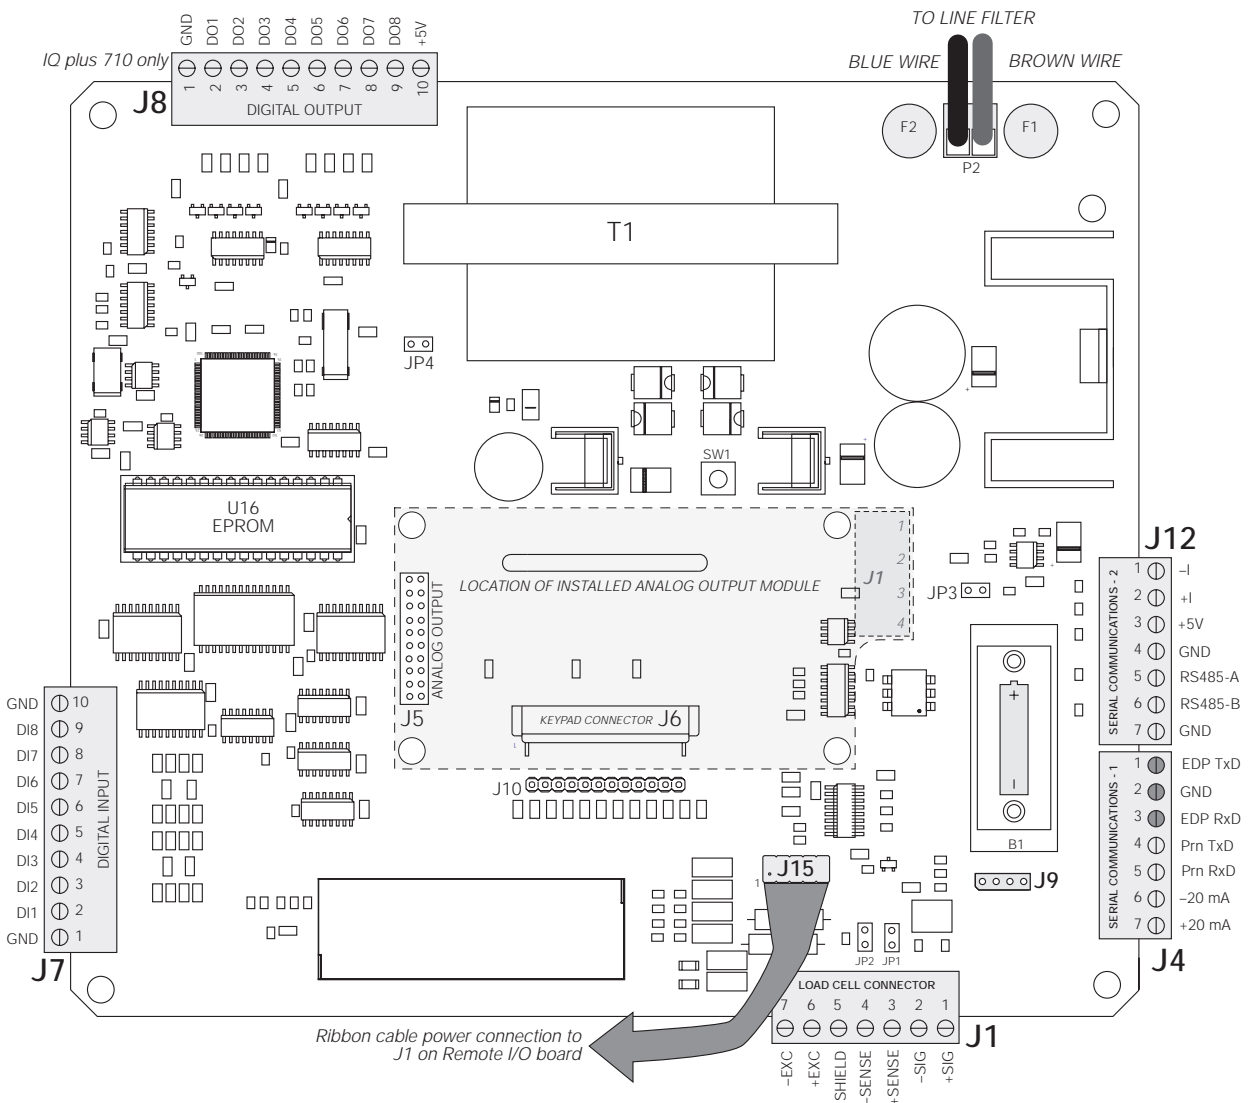

Figure 2-5. IQ plus 510/710 CPU and Power Supply Board
- Ribbon cable from connector J15 on the indicator CPU/power supply board (see Figure 2-5 on page 5) to connector J1 on the Remote I/O board.